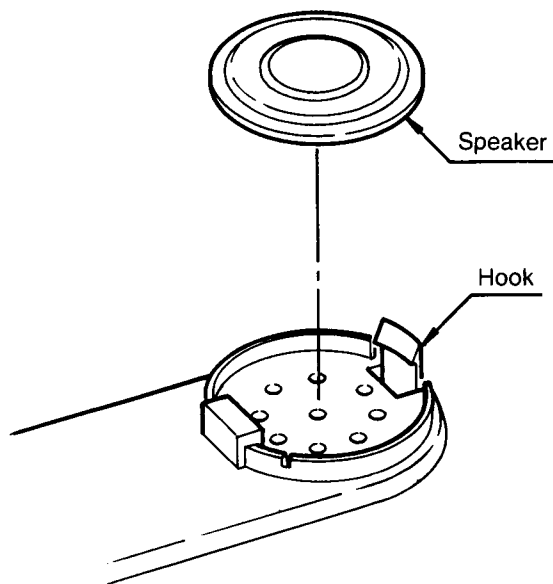

Figure 2-21. Speaker Removal
- (1) Remove the Speaker connector from the Main PCB.
- (2) Remove the hooked speaker from the Bottom Case. (Figure 2-21)